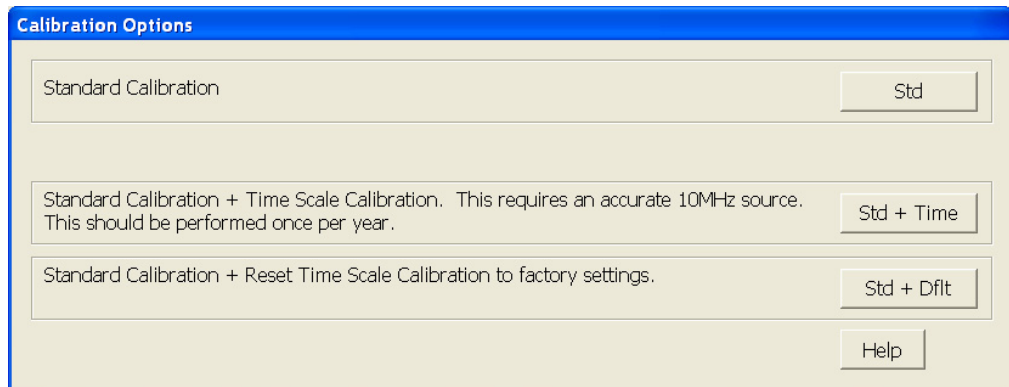

Figure 46 Time Scale Calibration Dialog box
- e During the calibration of channel 1, if you are prompted to perform a Time Scale Calibration, as shown in Figure 46 below.